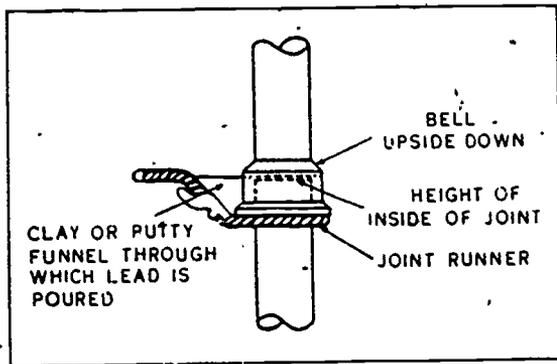

Figure 4-18. Pouring an upside-down joint.
*Pouring upside-down lead joints.* Sometimes, during the construction of a vent stack, you may have to pour lead into an upside-down joint. This type of joint is permissible when it is located above the drainage lines to the stack. The manner in which lead is poured into an upside-down joint is illustrated in figure 4-18. To force the lead to flow up into the hub, a clay or putty funnel is formed above the pouring opening in the asbestos joint runner. The funnel must be deep enough to raise the level of the lead inside the joint. You must exercise extreme caution when you pour this type of joint to prevent serious burns to yourself from splattering or falling lead. The putty or clay pouring funnel must be dry and free of moisture before the lead is poured to prevent blowout of the hot lead from steam. After the lead cools, the joint runner is removed, and the lead is calked in the same manner as that used for other joints.